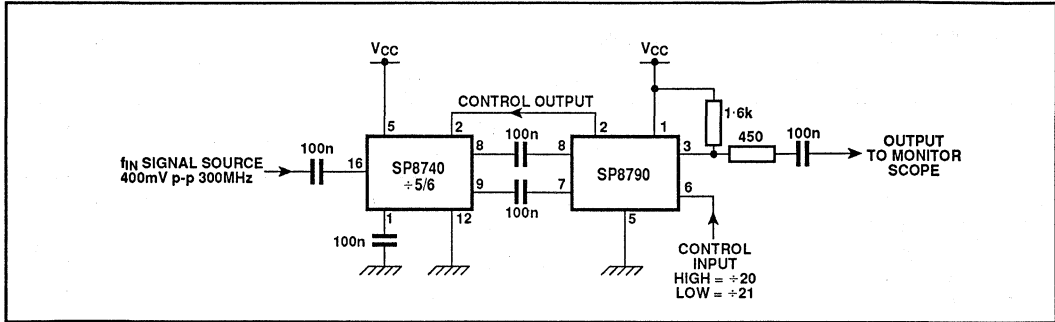

Fig. 4 Test circuit
1. The test configuration for dynamic testing is shown in Fig.4.
1. The device will normally be driven by capacitively coupling the inputs to the outputs of a 2-modulus divider, as shown in Figs. 4 and 5. The maximum frequency of the device when used as a controller is limited by the internal delays to 60MHz. However, when used as a +4 prescaler, it will operate at frequencies in excess of 80MHz, the maximum frequency being limited by saturation of the output stage.
6. The control output, which includes an internal 16k Ω pull-down resistor, is ECL compatible and will interface directly to ECL 2-modulus dividers such as the GPS SP8600 and SP8700 series as shown in Figs. 4 and 5.